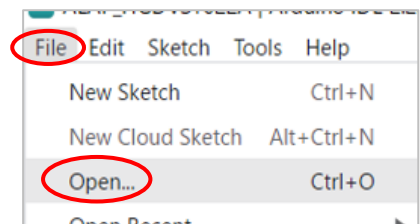

Fig.3
2. In menu [file]→[Open] and select (ALAP_HGPRDT007A.ino) in list (Fig.3).